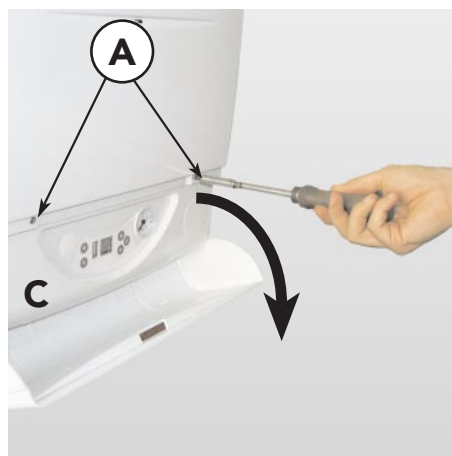

Fig. 34
### 7.03 To lower the control panel (fig. 34)
- Remove the two fixing screw (fig. 34) "A"